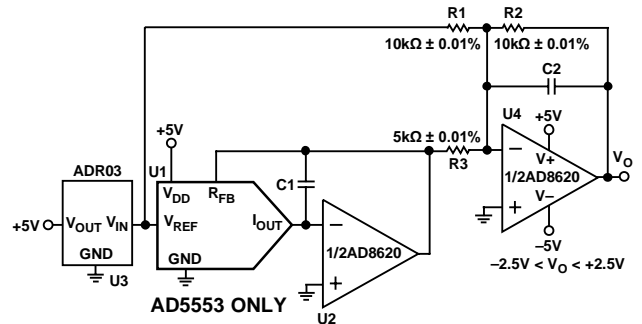

Figure 22. 4-Quadrant Multiplying Application Circuit
In some applications, it may be necessary to generate the full 4-quadrant multiplying capability or a bipolar output swing, which is easily accomplished by using an additional U4 external amplifier configured as a summing amplifier (see Figure 22). In this circuit, the second amplifier, U4, provides a gain of 2 that increases the output span magnitude to 5 V. Biasing the external amplifier with a 2.5 V offset from the reference voltage results in a full 4-quadrant multiplying circuit. The transfer equation of this circuit shows that both negative and positive output voltages are created as the input data (D) is incremented from code zero ( $V_{OUT} = -2.5$  V) to mid-scale ( $V_{OUT} = 0$  V) to full-scale ( $V_{OUT} = +2.5$  V).